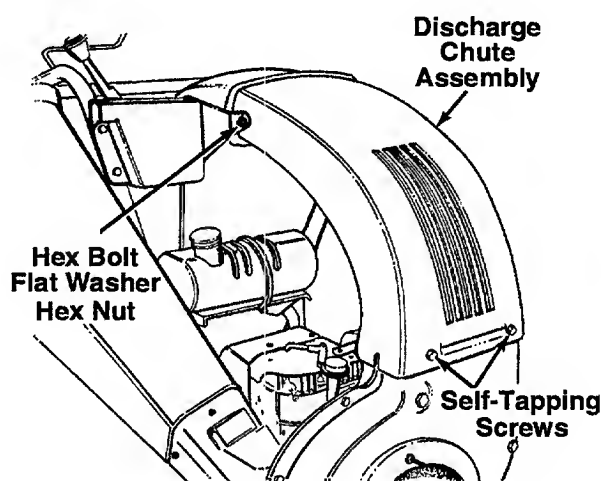

Figure 14
3. Remove the four self-tapping screws from the bottom of the discharge chute, and the hex bolt, flat washer and hex nut from the top. Remove the discharge chute assembly. See Figure 14.